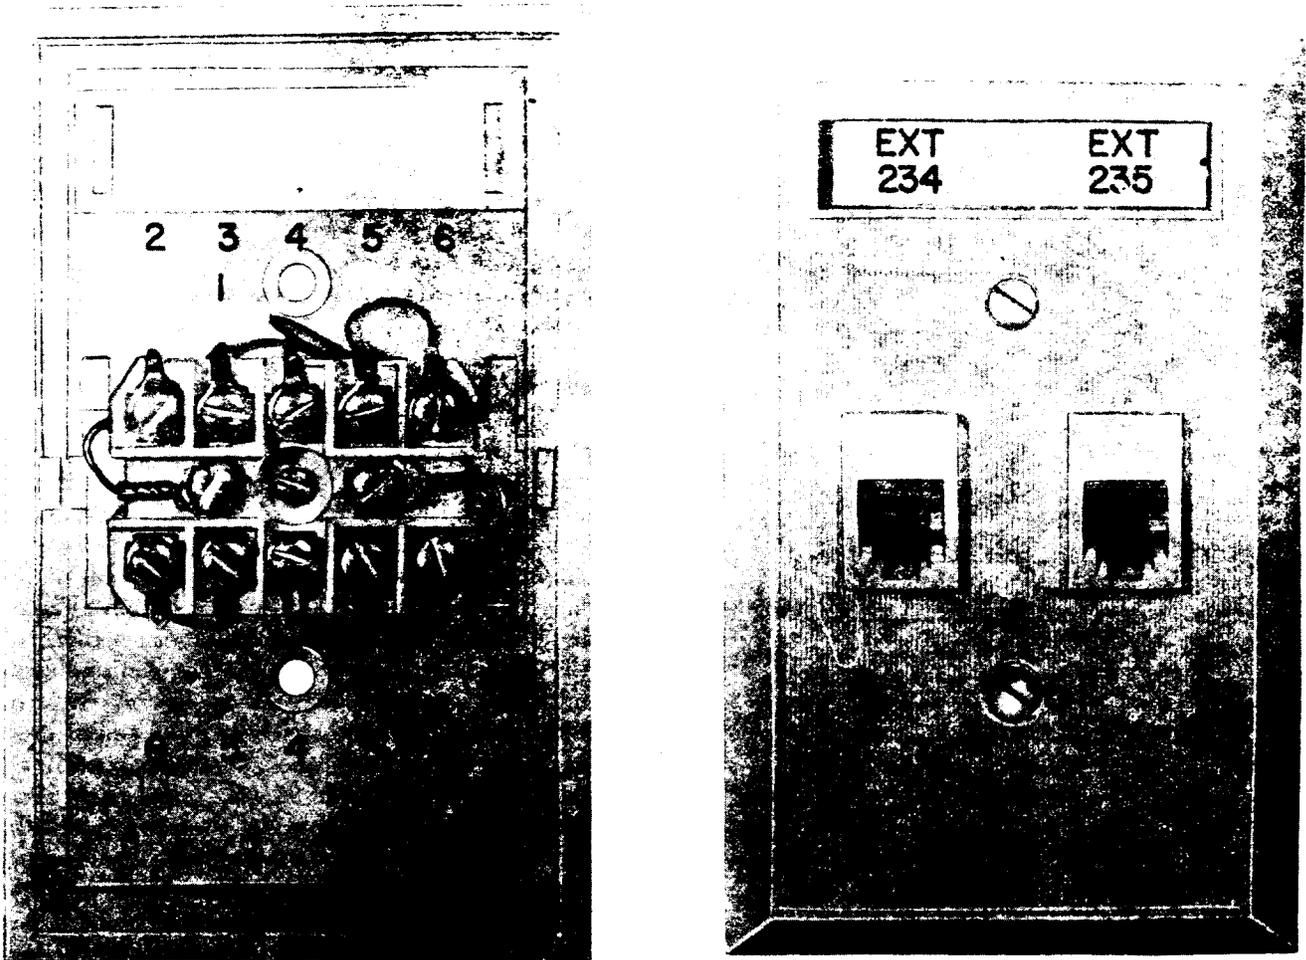

Fig. 6—625D6 Connecting Block (Without Mounting Hardware)
- Block, Connecting, 625D6 (Fig. 6, 7)
E. 625D6 Connecting Block (Fig. 6 and 7)
2.07 The 625D6 connecting block (Fig. 6 and 7) consists of two 645A6E jacks molded into a plastic faceplate, terminal block, and mounting bracket. Twelve screws are provided on the rear of the block for connections. It is intended for flush mounting in areas where two separate lines enter through a single outlet and terminate in separate jacks. Intended for use where six conductors are needed in each jack. Each jack provides for terminating a modular mounting cord. It is available in ivory (-50) and brown (-54).
3.06 625D6 Connecting Block: Mount the 842615544 bracket (Fig. 6) on a standard electrical outlet box using hardware furnished with bracket. Feed wiring through bracket opening and terminate on terminal strip located on back side of block (Fig. 7). Each jack has six-conductors; the bottom row of the terminal strip is for the left jack and the top row for the right jack. Attach the faceplate to the bracket using screws provided. Figure 7 is a schematic of 625D6 connecting block jacks. Intended for use where six conductors are needed in the jack.